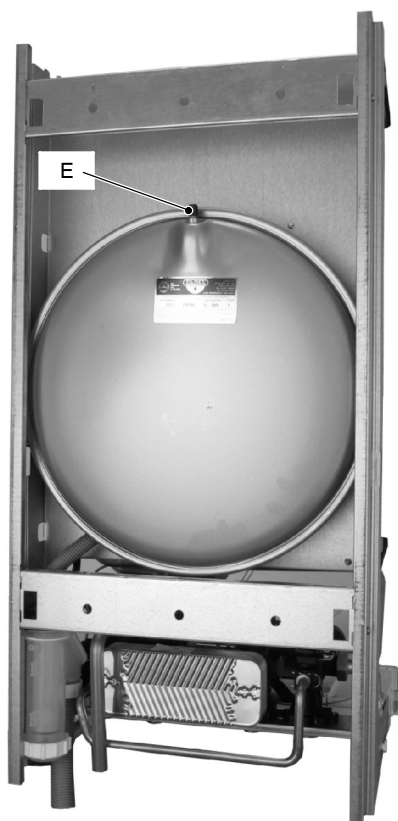

Fig. 4 Rear view of the boiler
- 2 Remove the protective cap *E* (Fig. 4) from the valve on the top of the expansion vessel and connect a suitable air pressure gauge.